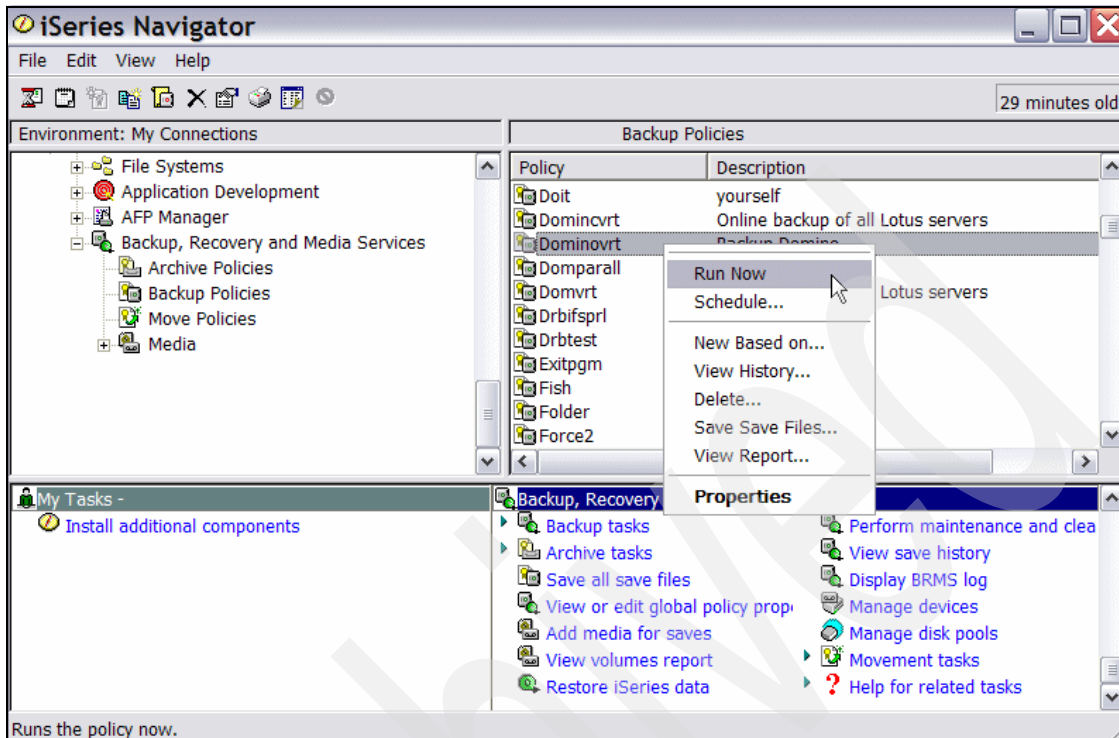

Figure 5-65 BRMS run Domino backup, Run Now selected
1. Right-click the Backup policy Dominovrt and select **Run Now**, as shown in Figure 5-65 on page 251.